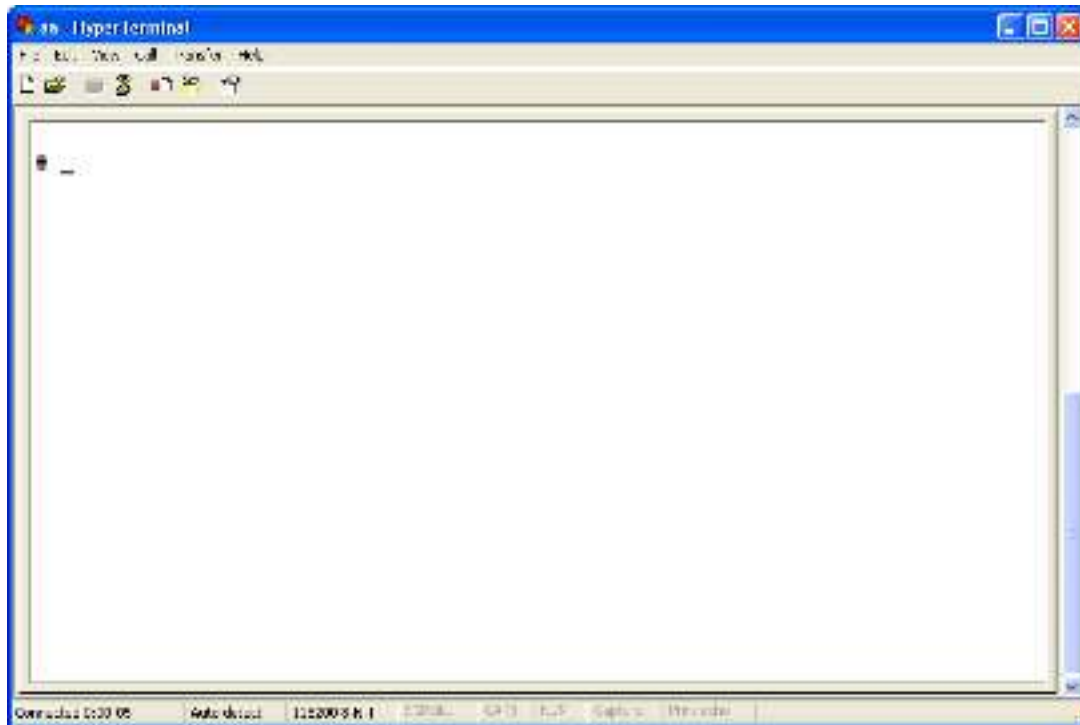

Fig. 3.4 Hyper Terminal Interface
finish, the Hyper Terminal interface like Fig. 3.4 will appear
**Step 1:** Enter into the Hyper Terminal. Click “Start”→ “Programs”→ “Accessories”→ “Communications”→ “Hyper Terminal”→ “aa.ht”, the Hyper Terminal interface in Fig. 3.4 will appear.